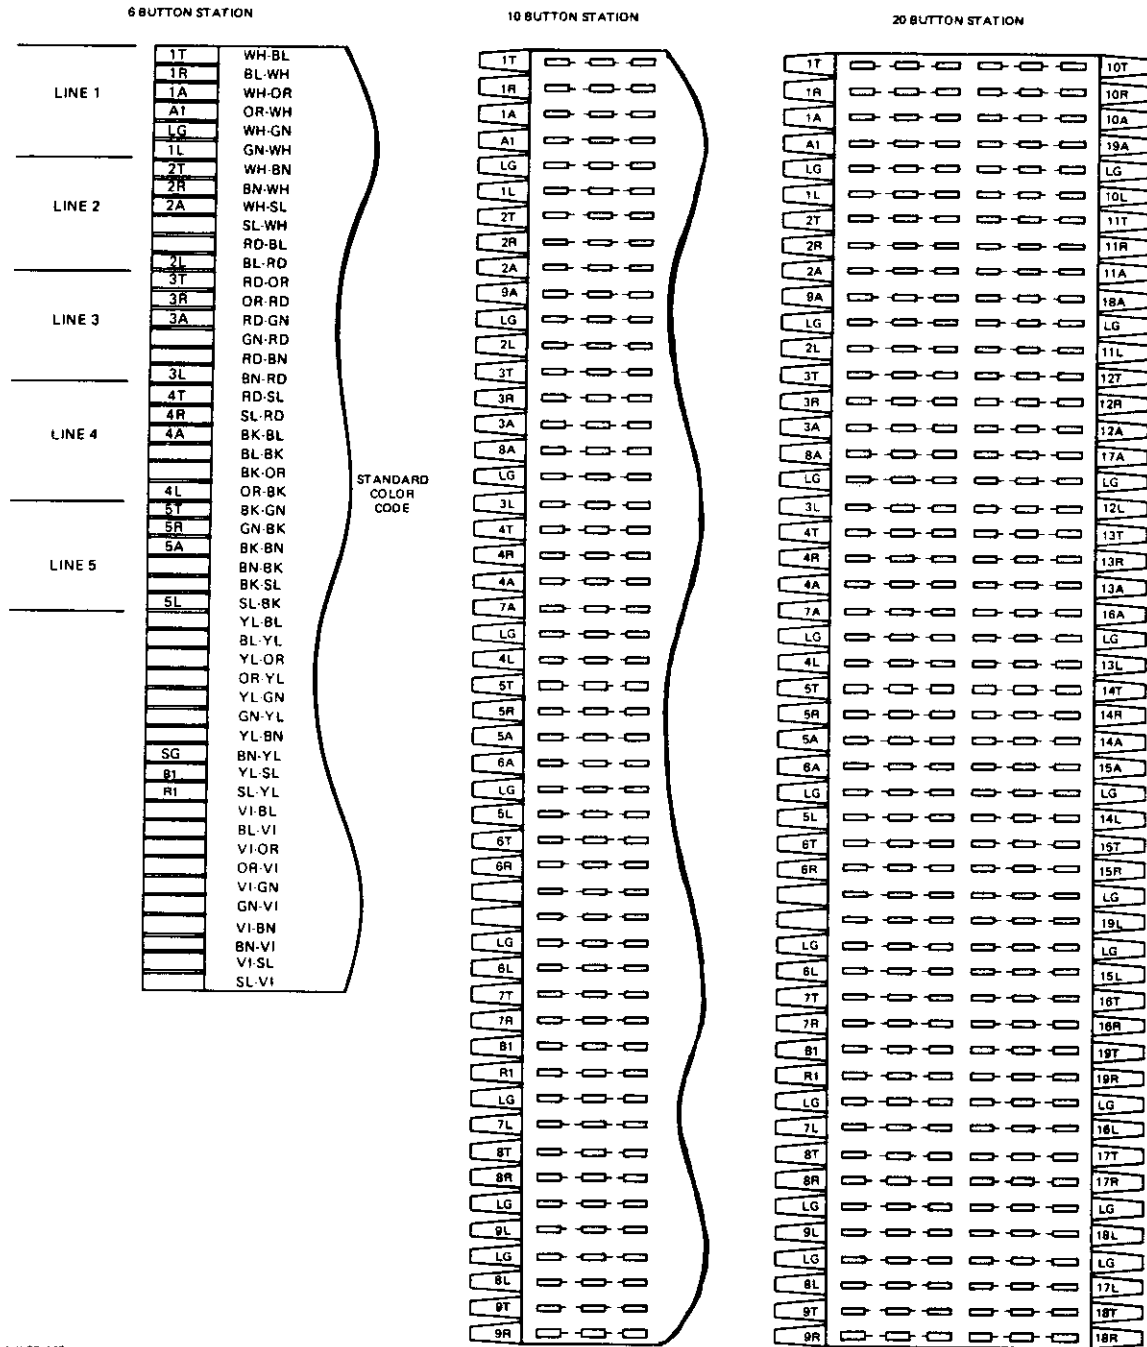

Figure 6: Typical Station Block Layouts
3.12 Connect the 25-pair station cable from each multibutton telephone to a station connecting block. Punch each cable down following the standard color code order. Label each block with the station identification and the proper lead designations. Refer to the applicable Telephone Apparatus Practice or circuit label for lead designations. For reference, typical station block layouts for 6-button, 10-button, and 20-button telephones are shown in Figure 6.